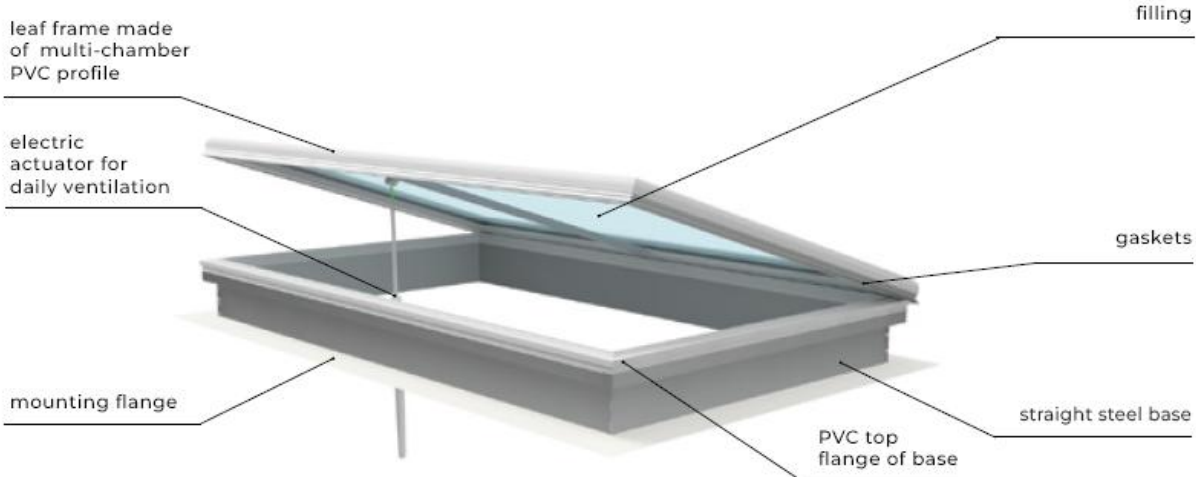
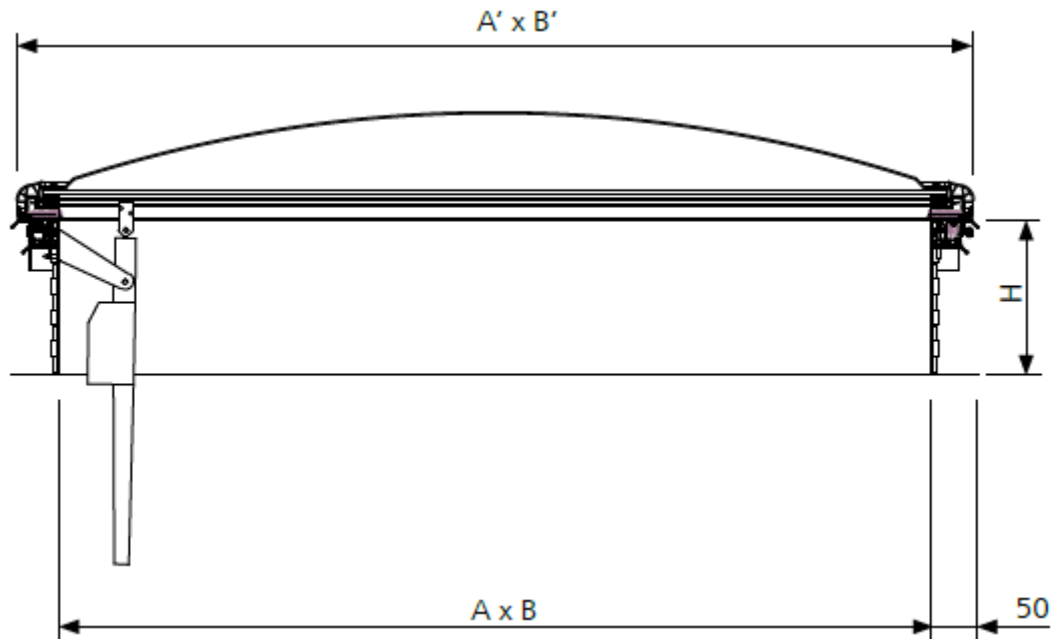

Fig. 9. Ventilation vent of mcr ULTRA THERM type with straight steel base.
Fig. 10. Cross-section through ventilation vent of mcr ULTRA THERM type with straight steel base.
- with metal base* → see Fig. 9, Fig. 10.